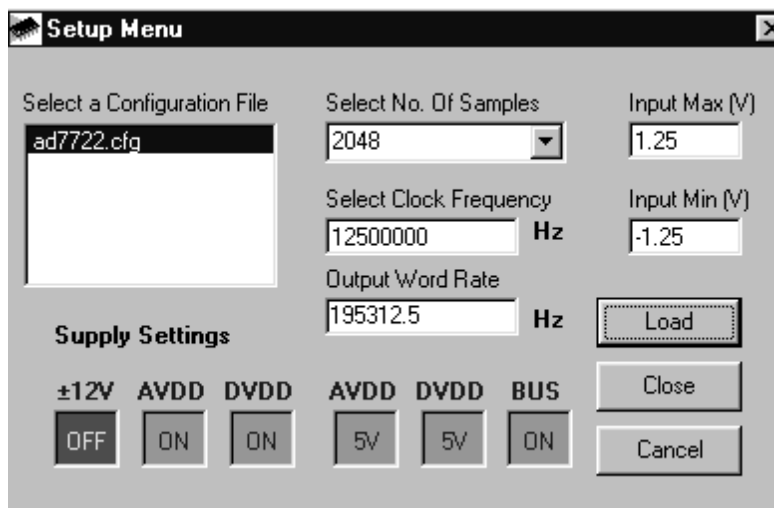

Figure 5. Setup Menu Screen
The Setup Screen is responsible for allowing the user to load a configuration file for the evaluation board. The configuration file will give the software detailed information about the evaluation board and the part connected to the Eval-Control Board such as number of bits, maximum sampling rate, power supply requirements, etc. The configuration file also tells the software the name of the DSP program file which it should download to the Eval-Control Board. These files are supplied by Analog Devices with the evaluation board. Figure 5 shows the setup screen. For the AD7722 evaluation board, the configuration file is called ad7722.cfg.
**Setup Menu:** Selecting this option displays the Setup Screen as shown in Figure 5.